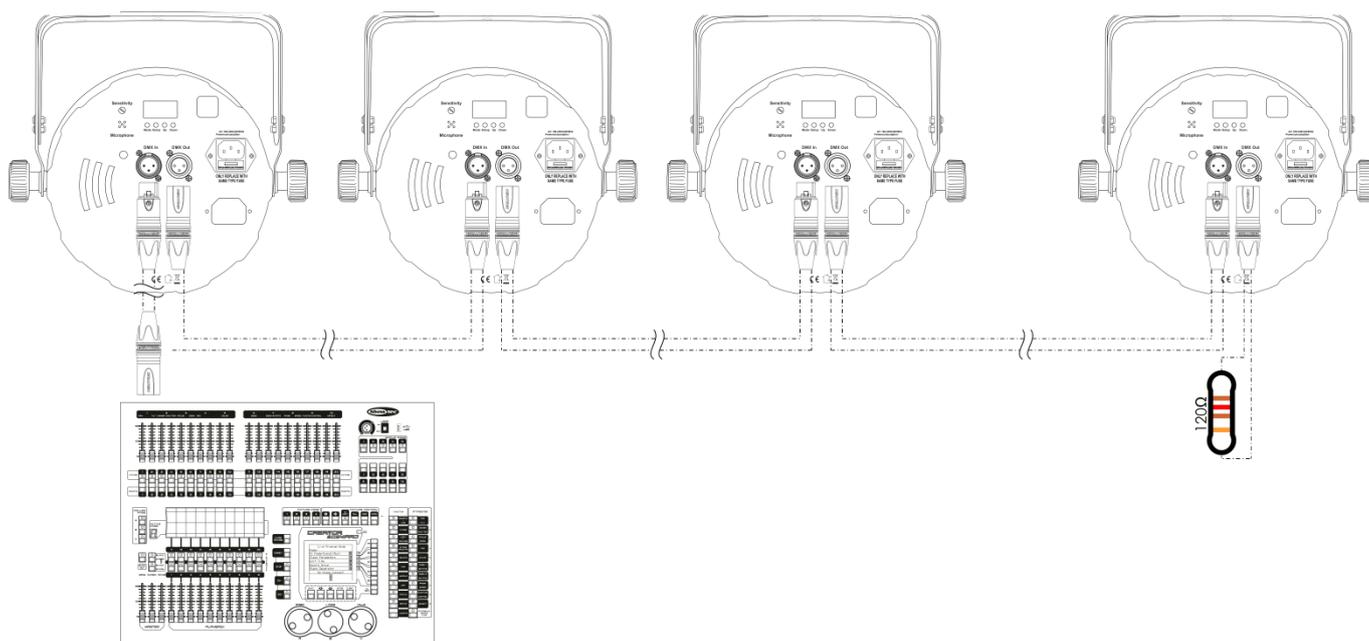

Fig. 03
- 04) Link the units as shown in fig. 03. Connect the first unit's DMX "out" socket with the second unit's "in" socket, using a DMX-signal cable. Repeat this process to link the second, third, and fourth units.